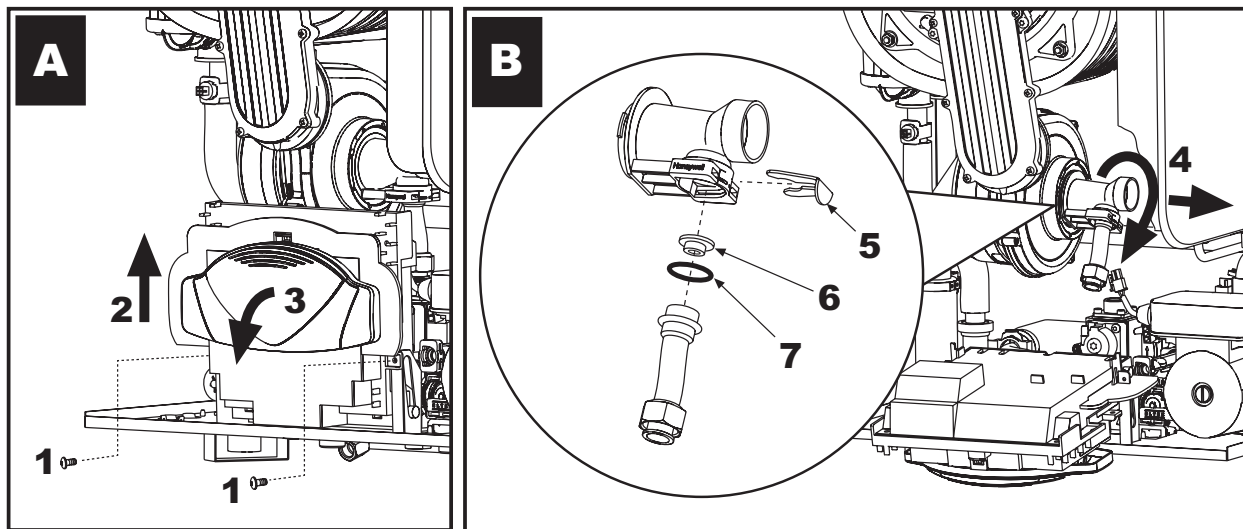

fig. 29 - Changing the gas nozzle
2. Follow the sequence of fig. 29 to access the gas nozzle **6**.